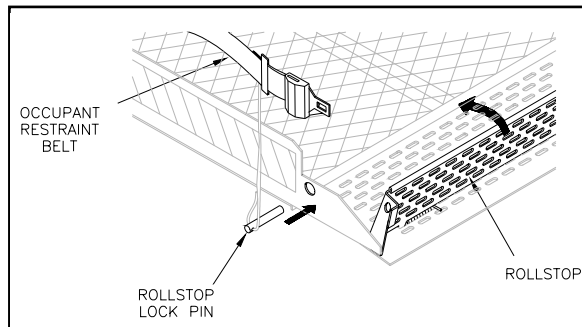

FIGURE 2-9: MANUAL ROLLSTOP OPERATION
- Refer to Figure 2-9 when operating manual rollstop.